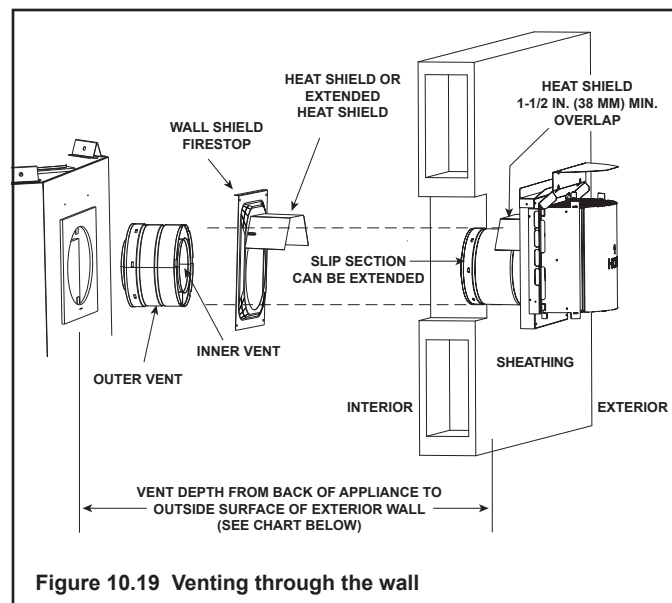

Figure 10.19 Venting through the wall
- **DO NOT** remove the heat shields attached to the wall shield firestop and the horizontal termination cap (shown in Figure 10.19).
There are two sections of the heat shield. One section is factory-attached to the wall shield firestop. The other section is factory-attached to the cap. See Figure 10.19.